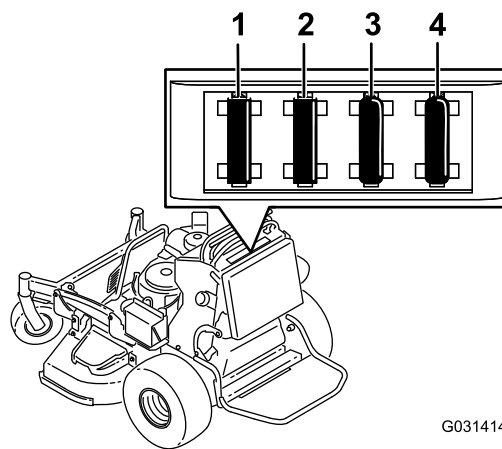

Figure 64
4. Pull out the fuse and replace it (Figure 64).